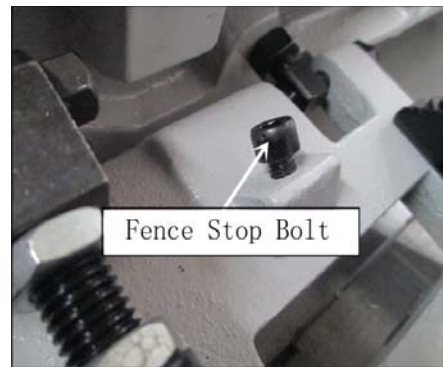

Figure 19
2. Adjust the 45° outward fence stop set screw until it makes contact with the back of the fence. as shown in Fig. 19